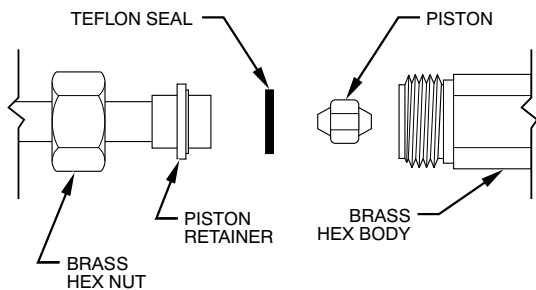

Fig. 28 – Refrigerant Flow-Control Device (For FB and FMA4P)^{A93530}
2. Recover remaining refrigerant from tubing and coil through gage port on vapor-tube service valve. Disconnect refrigerant (liquid) tube from piston body (Fig. 28).